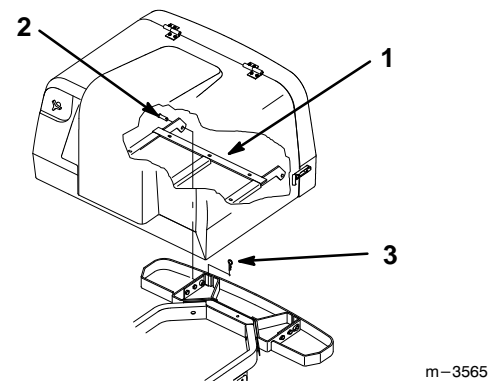

Figure 13
5. Place hopper assembly onto frame and align with holes in bumper mounts. Insert (2) clevis pins and secure with hairpin cotters (Fig. 13).